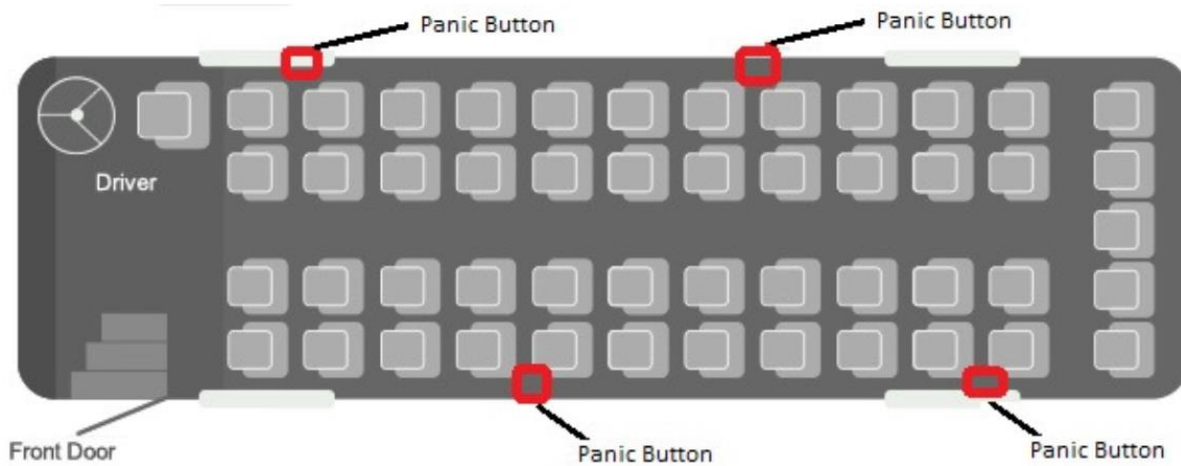

Figure 2: Indicative Panic Button positions for 49 seater
- ❖ 24 seat and above : 1+ 4 (As shown in Figure 2)